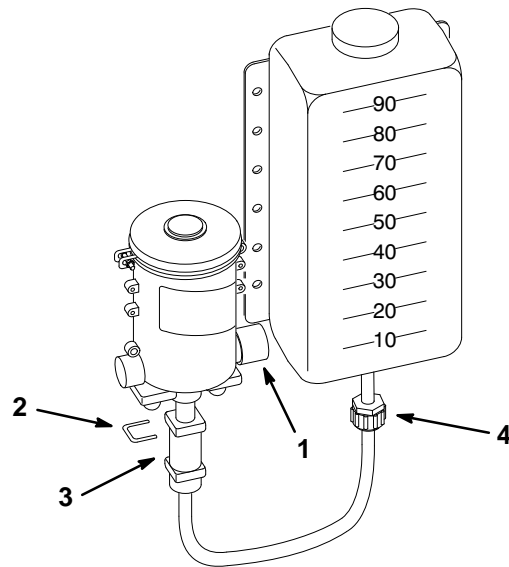

Figure 14
- **Bypass Knob:** Rotate the bypass knob clockwise to enable the injection system. Rotate the bypass knob counterclockwise to bypass the injection system and aerate only (Fig. 14).
- **Ratio Adjuster:** Adjusts the mixing ratio to 1:500 (0.2%), 1:200 (0.5%), 1:128 (0.8%) or 1:100 (1%) (Fig. 14). To adjust the ratio, remove the anti-rotation lock pin, rotate the ratio adjuster to the desired ratio, then reinstall the lock pin. (Refer to step 7 on page 14 for details.)
- **Drain Hose Connector:** Used to drain and clean the tank. To drain the tank, unscrew and remove the connector (Fig. 14).